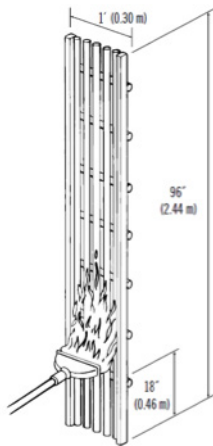

Figure 1 – Diagram of UL 1685 vertical tray flame test from the Anixter Technical Handbook.
The fire resistance is tested by using standardized flame tests. The most common flame test is UL 1685 *Vertical-Tray Fire-Propagation and Smoke-Release Test for Electrical and Optical-Fiber Cables*. This test involves loading multiple cables in a vertical section of cable tray and igniting the cable at the base of the tray. The cable passes the test if it does not propagate the fire. See Figure 1 for a diagram of the test. This same test is used to test single-conductor power cables 1/0AWG and larger for use in cable tray, tray cable (TC), power-limited tray cable (PLTC), instrumentation tray cable (ITC), and fire alarm (FPL), communication cables (CM) and fiber (OFN). Many end-users don't realize that 300 V cables and fiber cables are tested in the same fire test as large power cables and 600 V tray cable. Because of this finding, a cable with the proper fire rating is usually not an issue.